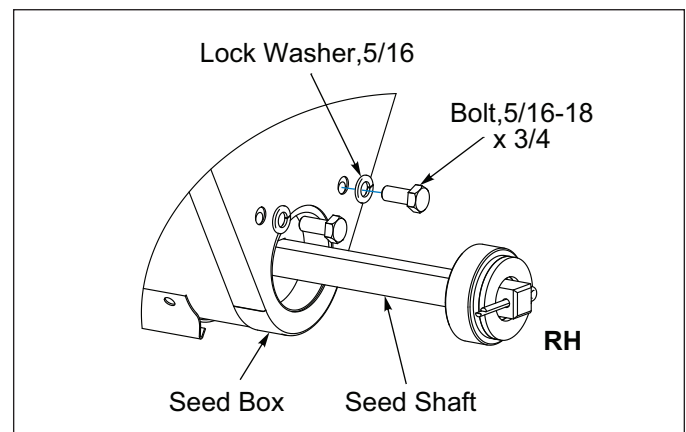

Figure 2-8: Agitator Installation - RH
2. On the right end of the Seed Box, remove the 5/16-18 Hardware that attaches the end bearing to the inside of the Seed Box. **See Figure 2-8.**